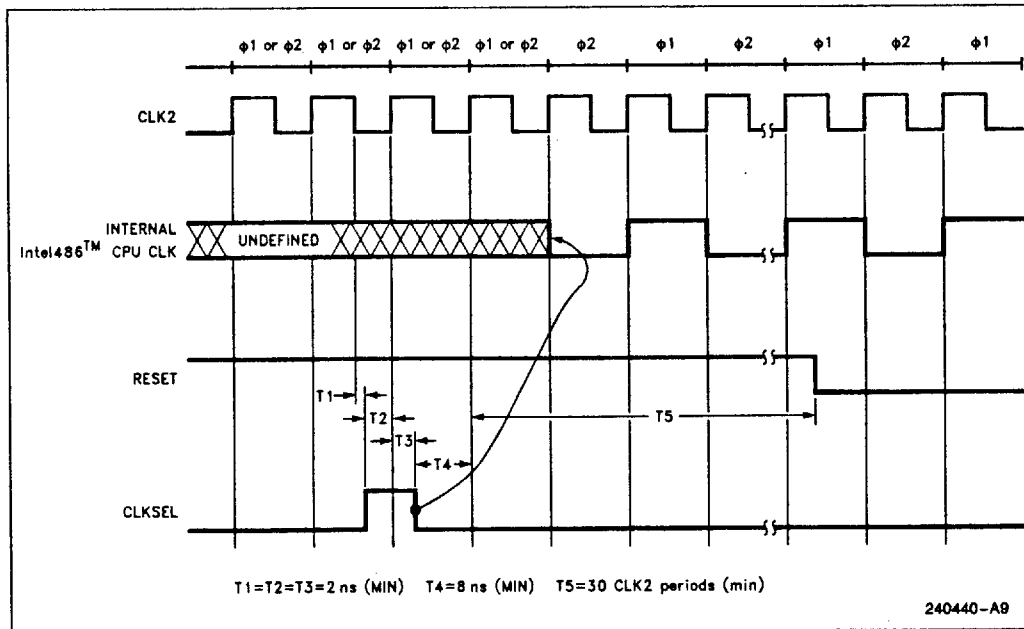

Figure 15.5. CLKSEL Timing Definition during Power-Up Reset
Figure 15.5 shows the detailed timing definition of this pulse. The pulse on CLKSEL pin is only required during power-up reset. During all other times including warm resets the CLKSEL pin should be driven low and must be free of spikes or glitches. After the power-up reset, the system must track the phase of CLK2 at all times including during warm resets so that the input/output signals can be sampled at the appropriate clock edge. The phase relationship is described in the next section.
1. Frequency can be changed at least 8 clocks after satisfying  $t_4$  (see Figure 15.5). The system can be started at a lower frequency and after satisfying the CLKSEL pulse specifications, it can be operated at the required speed.